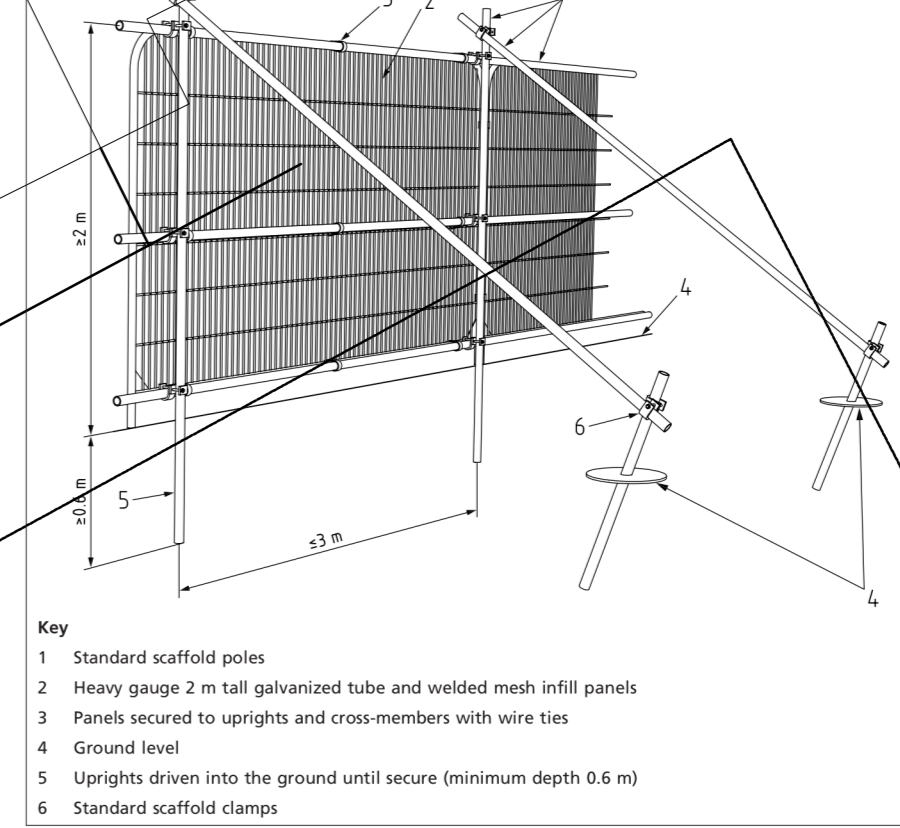

Figure 2 Default specification for protective barrier
2. Upon the careful removal of the existing hardstanding, the long-term protective fencing, as illustrated by the blue line on the plan, is to be erected. This permanent fencing shall conform to the guidelines set forth in Figure 2 of BS5837:2012.
- Permanent protective fencing location - see inset for type / construction detail (Figure 2)